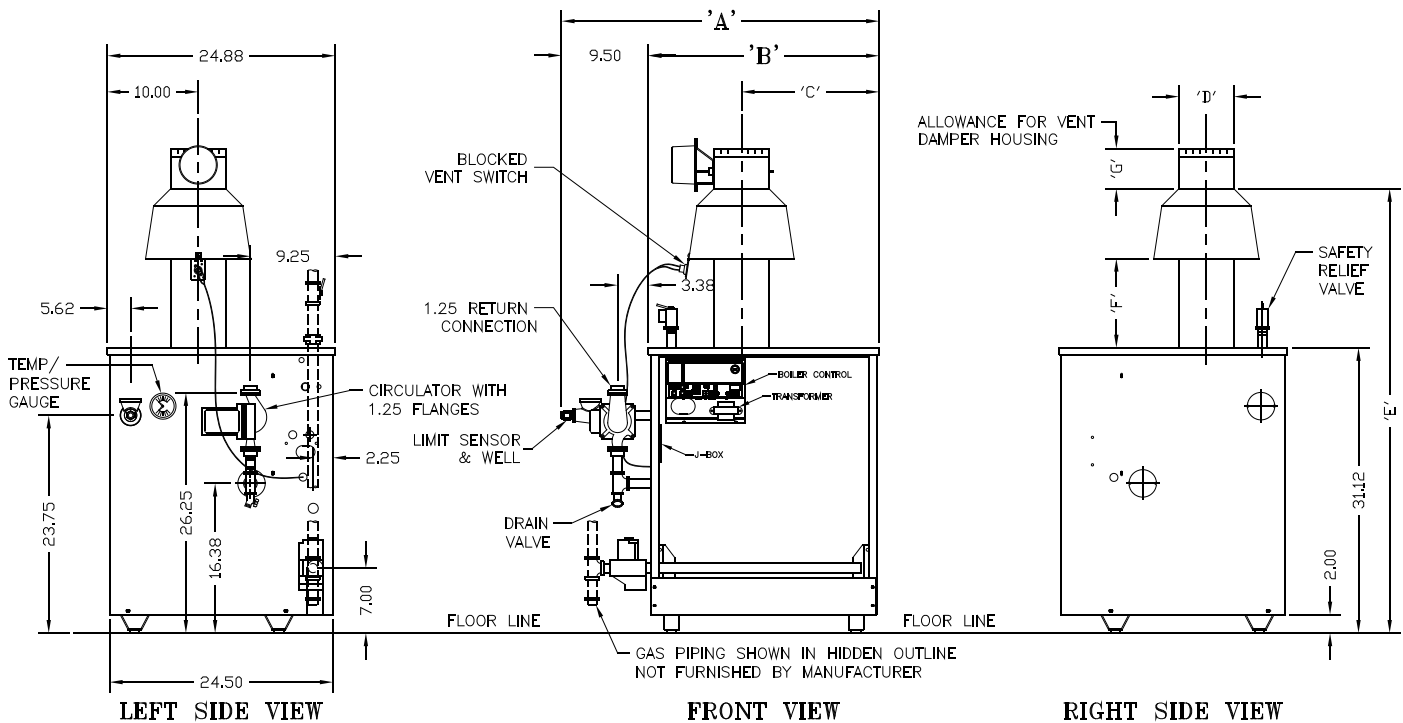

Figure 1: Dimensional Drawing
- C. **Install Safety Relief Valve.** See Figure 1. Safety Relief Valve must be installed with spindle in vertical position.